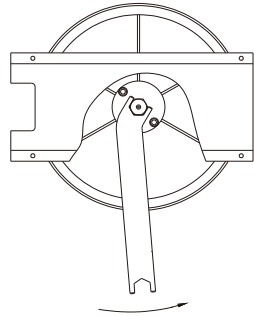
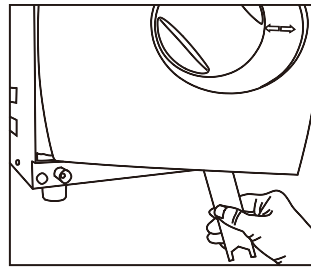

Fig 1
Fig 2
7.4.2 Insert the spanner tool in the gap beneath the plastic cover; use the spanner to grip the adjusting nut (Fig 1). Turn the nut counter clockwise as the figure below (Fig 2). This will tighten the sealing plate.